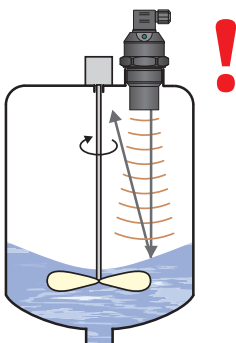

Fig. 11: Strongly stirred surface
- p) False surface reflections of the ultrasonic signal and unreliable operation of the device might result from the mixer's **rotating blades** that ripple the surface level(Fig. 11).